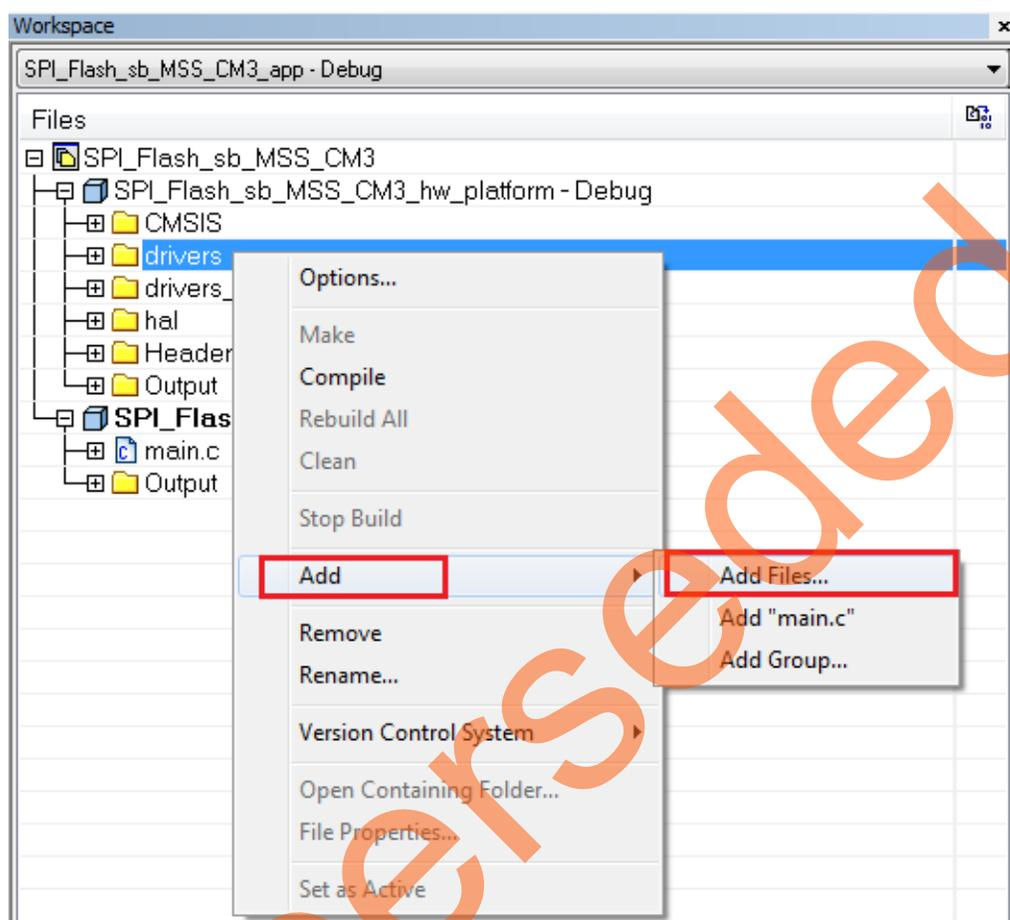

Figure 23 • IAR Workspace Window - Add winbondflash SPI Driver Files
7. Right-click and add the driver files (winbondflash.c & winbondflash.h) to the SPI_Flash_sb_MSS_CM3_hw_platform project in the IAR workspace, as shown in Figure 23.